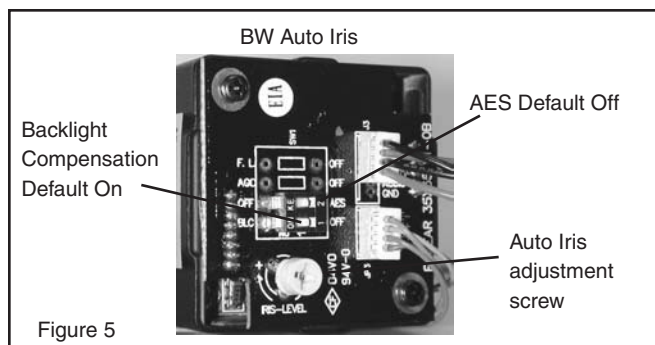

Figure 5
**AUTO IRIS LENSES.** The dip switches are factory set with AES off and backlight compensation on (Figure 5). The auto iris is also set at the factory, but an adjustment screw is included for use if needed. See page 10 for instructions on adjusting Auto Iris.